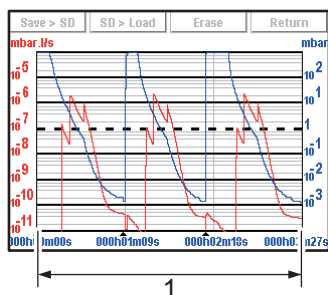

Fig. 14: Viewing a recording
- Set the area to be reduced (ref. 1 then ref. 2 Fig. 14): return to the original graph.